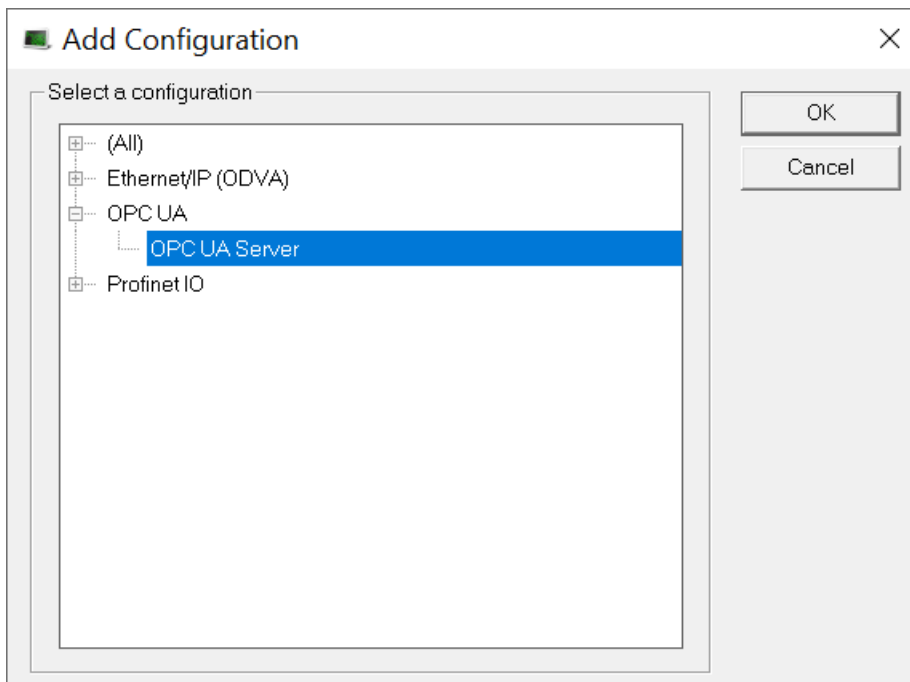

Figure 2-2: Add Configuration dialog box - OPC UA Server selected
5. In the **Select a configuration tree**, select **OPC UA Server**. (Figure 2-2)